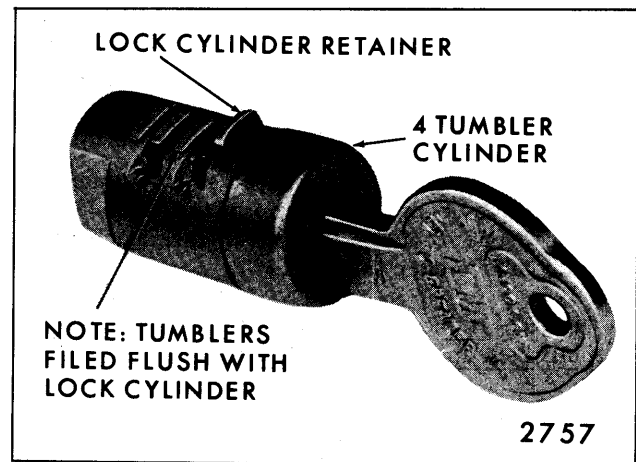

Fig. 1-9—Coded Glove Compartment Cylinder
4. Reverse lock cylinder position in vise and repeat step #3 for top of tumblers. See Fig. 1-9.